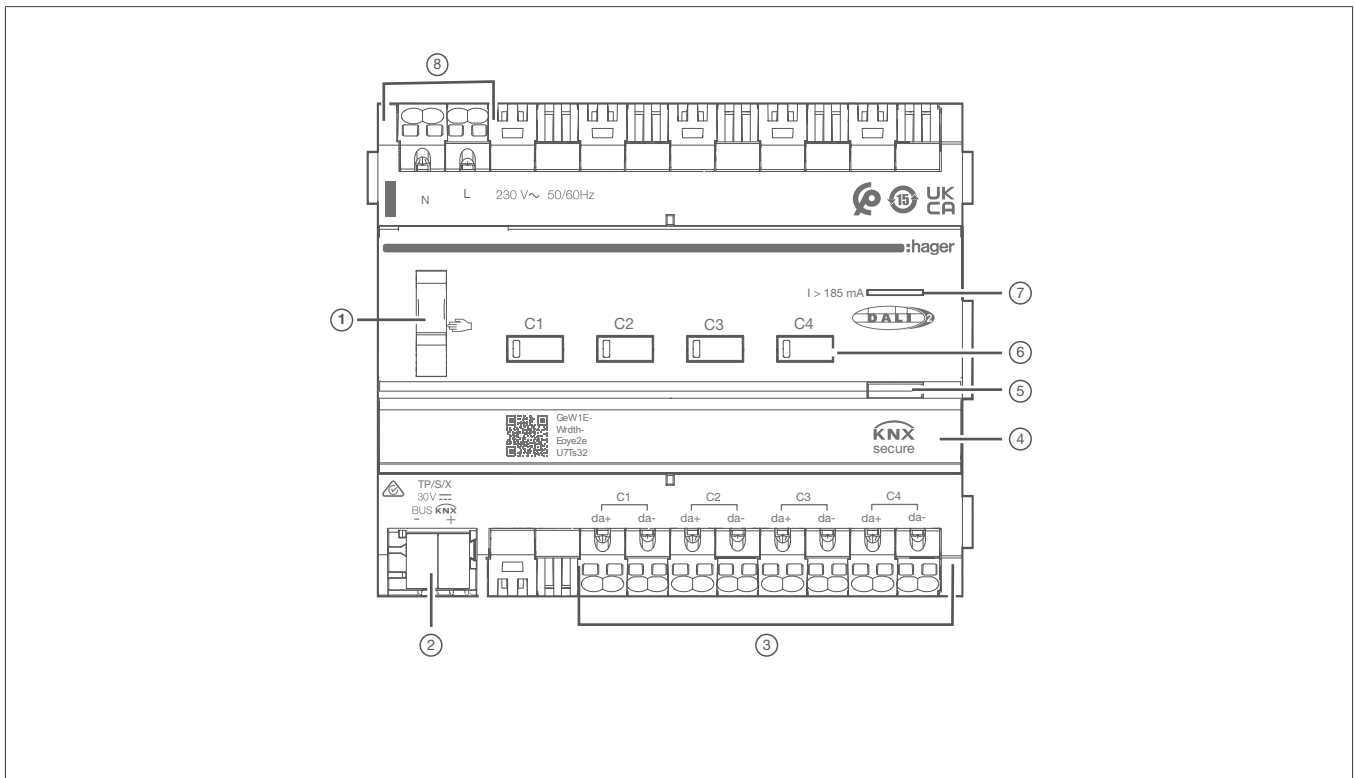

Fig. 2: Design and layout of the device TYAS664D
- Push the switch (Fig. 2/1) to the position .
The outputs can be controlled independently of each other using the control buttons (Fig. 2/6).
- Push the switch (Fig. 2/1) to the **AUTO** position.
The manual operation is switched off. Operation takes place solely via the KNX bus. The output assumes the position predefined by the bus controller. The switching status is indicated by the status LED of the control key (Fig. 2/6).